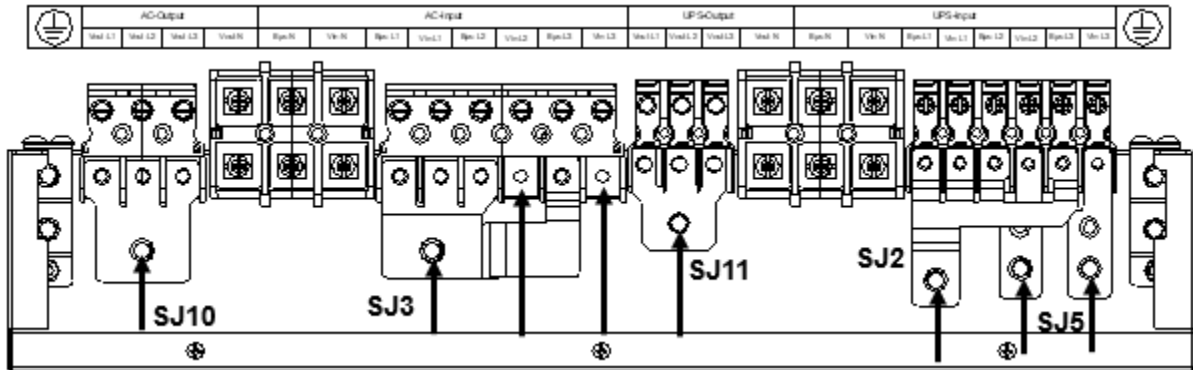

Figure 79: MBS Wiring Connections for a Single Feed with 3-Phase In and Single-Phase Out System [Jumpers = SJ2, SJ3, SJ5, SJ10 and SJ11]
- vi. Connect each wire under the appropriate screw as indicated on the back of the MBS (see the appropriate wire connection diagram in Figures 79 - 82 and bus jumpers in Figure 85). **Note:** Each part of the system must maintain a connected earth ground.